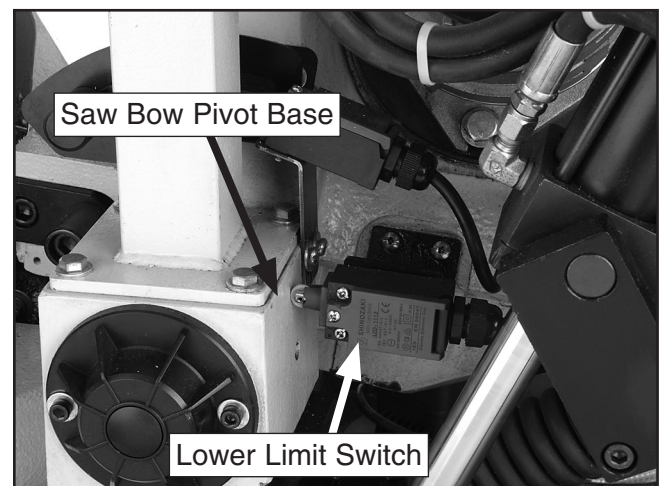

Figure 65. Limit switch.
6. Adjust the lower limit switch so that the button is depressed against the saw bow pivot base (**Figure 65**).